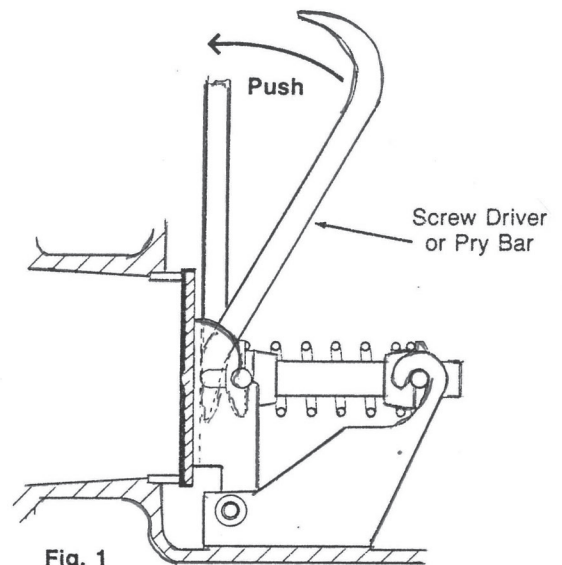

Fig. 1
3. Apply leverage between the spring guide assembly and the disc assembly as shown in Fig. 1.
3. To clean #1 Check, (6" and 8" only) locate the Check Arm opening stud on the outlet flange of the valve assembly. Slide the Check Arm over the stud with the check threads facing downward (figure 1). Tighten 1/4" nut on stud to secure Check bar.